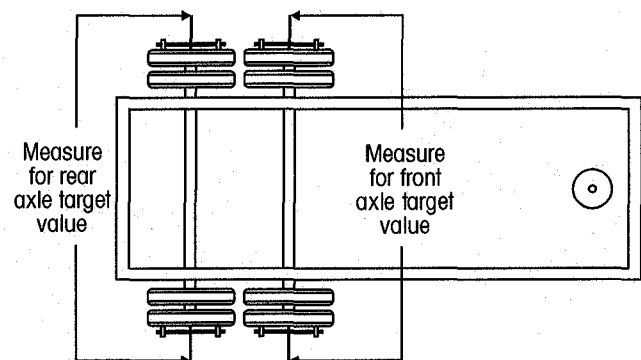

Figure 32: Point-to-point measurement for target values
1. Measure the point-to-point width of the installed wheel-end extenders (Figure 32).
As an alternative to measuring the point-to-point width of the wheel-end extenders, the following method can be used to approximate the distance (Figure 32):